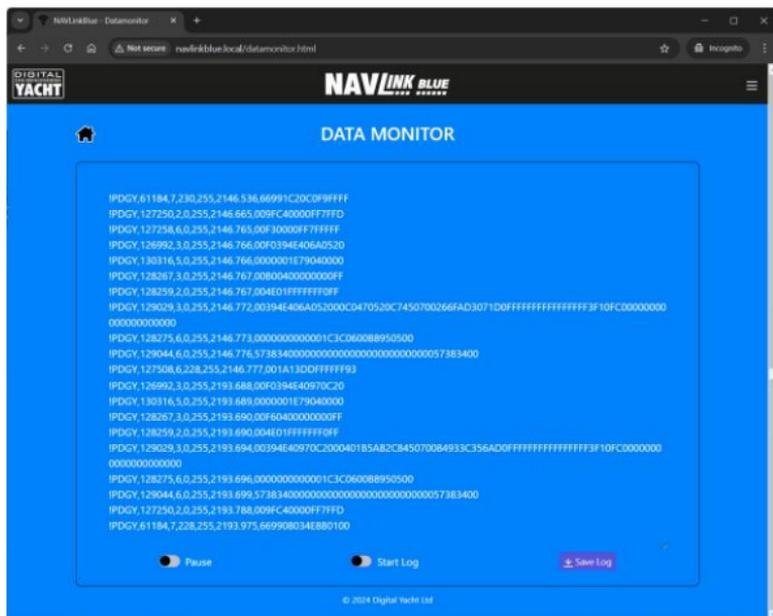

Figure 9
- For diagnostics purposes, it is possible to view and log all of the PGN data on the NMEA 2000 network. Click on the DATA MONITOR button and the window in Fig 9 will appear.